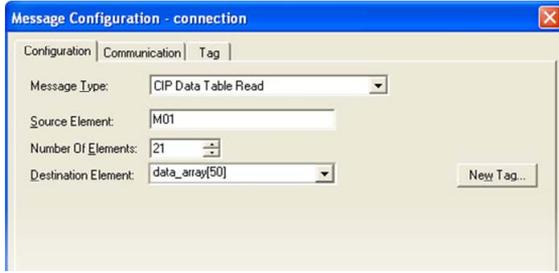

Figure 88: MSG Instruction Configuration
- b) Click the message configuration button ("...") in the MSG instruction. The "Message Configuration" window will open. Refer to Figure 88.